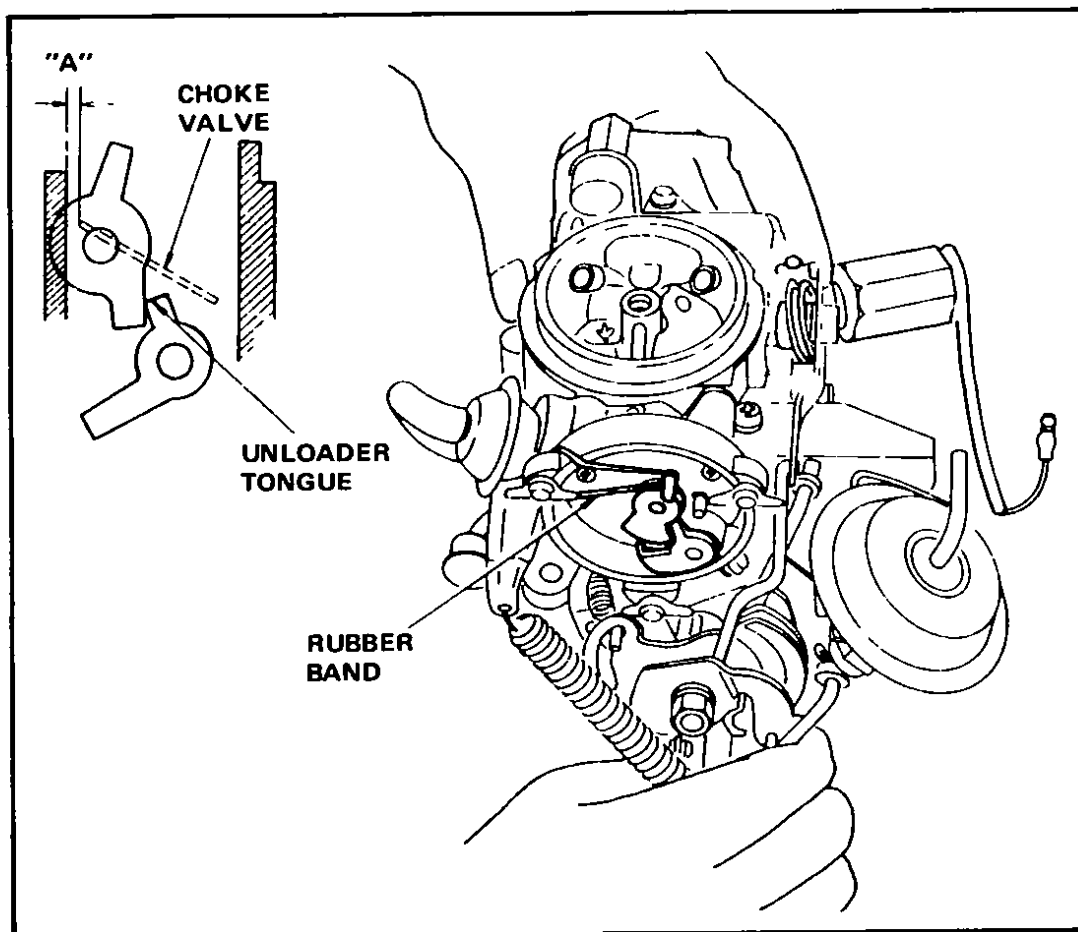

Fig 50 Choke unloader adjustment
- 2 Hold the choke valve by stretching a rubber band between the choke shaft and a stationary part of the carburetor, Fig 50.
- 4 Adjust clearance "A" Fig 50 by bending unloader tongue. Clearance for cars with manual or automatic transmissions: 2.03 mm (0.080 in.).